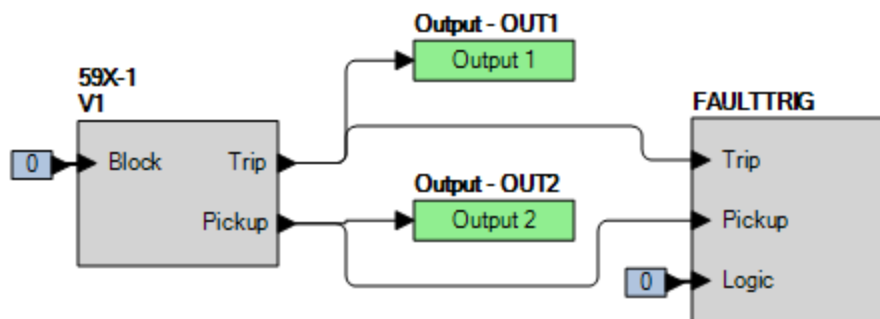

Figure 60-2. BESTlogicPlus Settings (V1 Mode)
- Step 2: Use BESTCOMS*Plus* to configure the BESTlogic*Plus* programmable logic shown in Figure 60-2.
- Step 4: Prepare to monitor the 59X-1 function operation. Operation can be verified by monitoring OUT2 (see Figure 60-2).